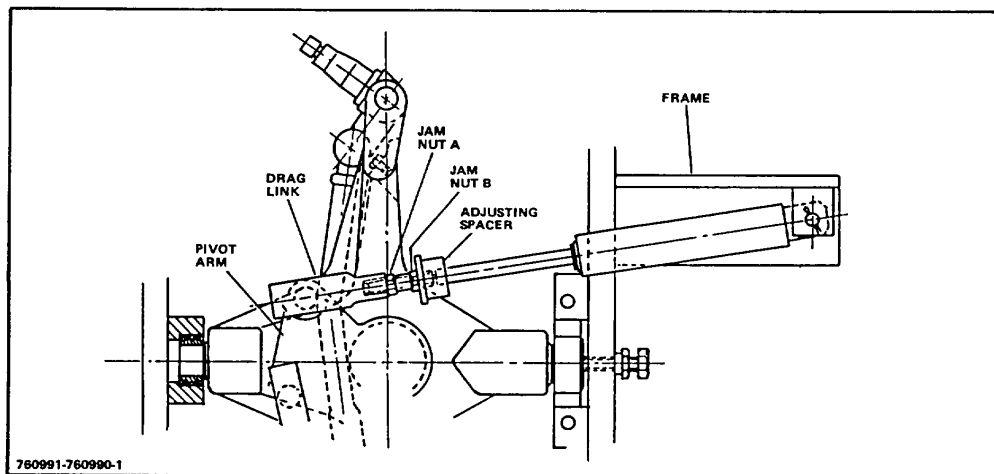
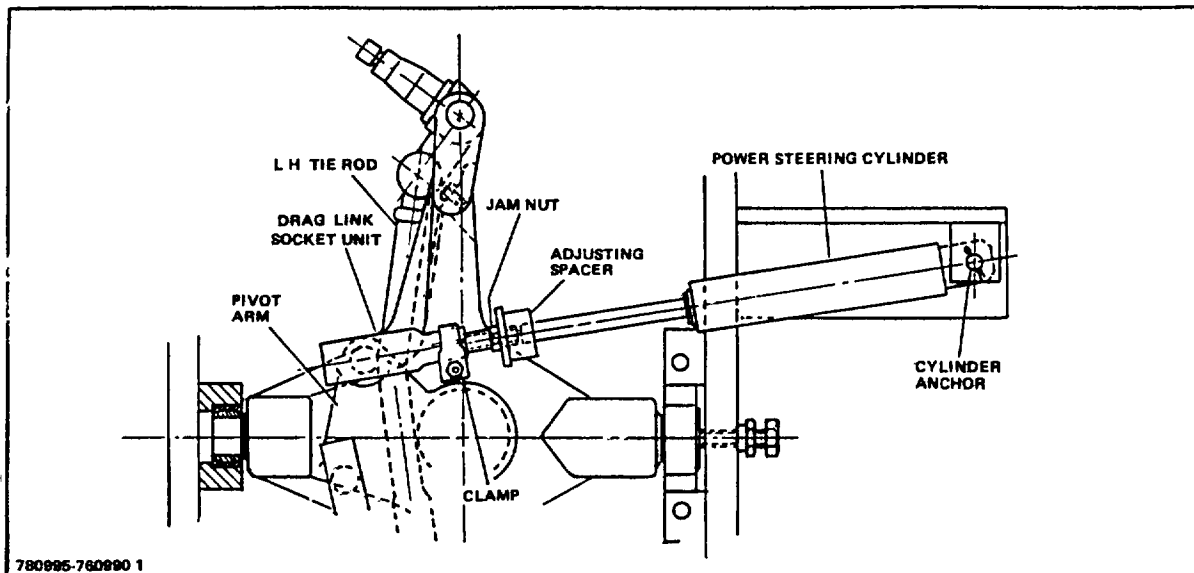

Figure 2-1. Drag Link Assembly
Figure 2-2. Drag Link Assembly (ACC 60-120)
1. Loosen the jam nuts (Fig 2-1), or jam nuts and clamp (ACC 60-120, Fig 2-2).
1. Position the cylinder anchor end at the truck anchor point. Install the anchor pin and washer. Secure the anchor pin with the cotter pin (Fig 2-1, 2-2).